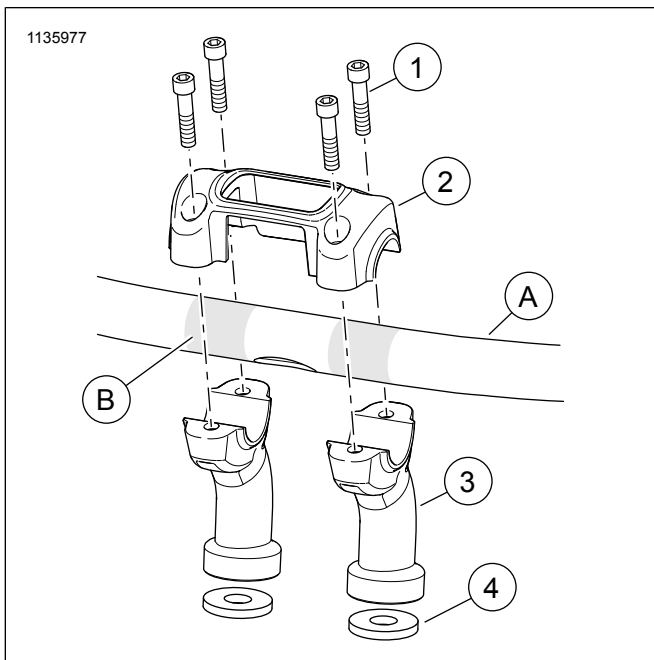

Figure 2. Breakout Riser Kit
See Figure 2 and Table 1.
3. See Figure 2. Install the handlebar risers (3). See service manual.